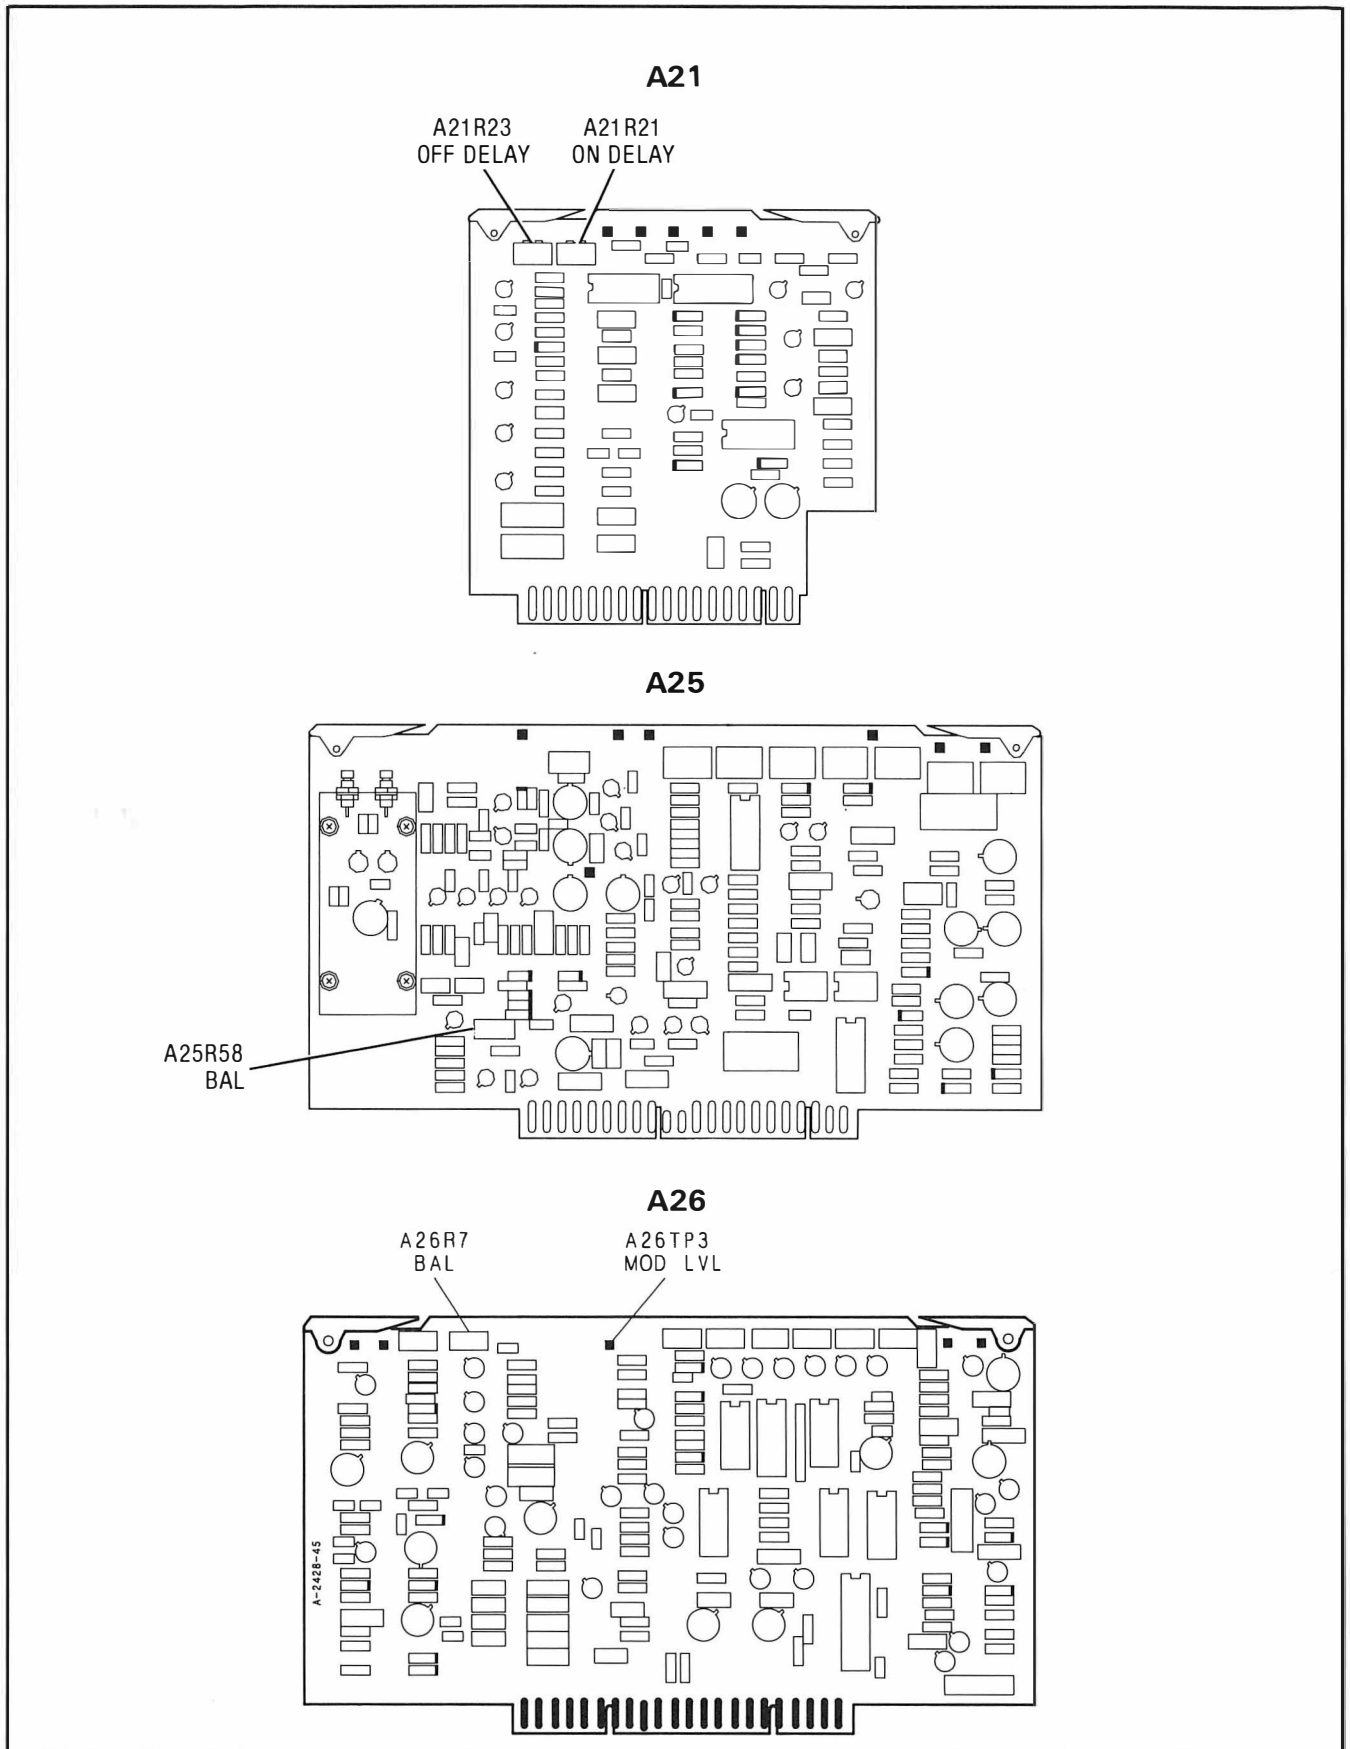

Figure 5-64. Pulse Adjustments Location
4. Press the HP 8340A Under Test **[INSTR PRESET]**. Press **[PULSE]** ON. Press **[CW]** and enter **[5][GHz]**. Press **[SHIFT][PWR SWP]** and enter **[0][dBm]**. Use the stepkeys to step in 10 dB RF attenuation. If the HP 8340A does not include an RF attenuator, connect a 10 dB pad to the RF output. Set A21R21 (ON DELAY) and A21R23 (OFF DELAY) fully counterclockwise. (See Figure 5-64.)